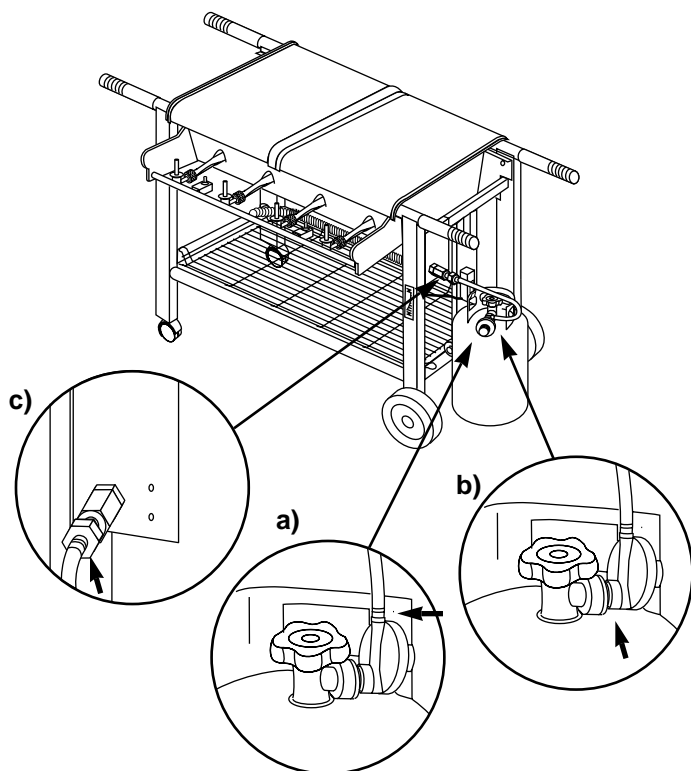

Figure 21
- a) Hose to regulator connection. Figure 21 (a).
- b) Regulator to tank connection. Figure 21 (b).
- c) Hose to bracket connection. Figure 21 (c).